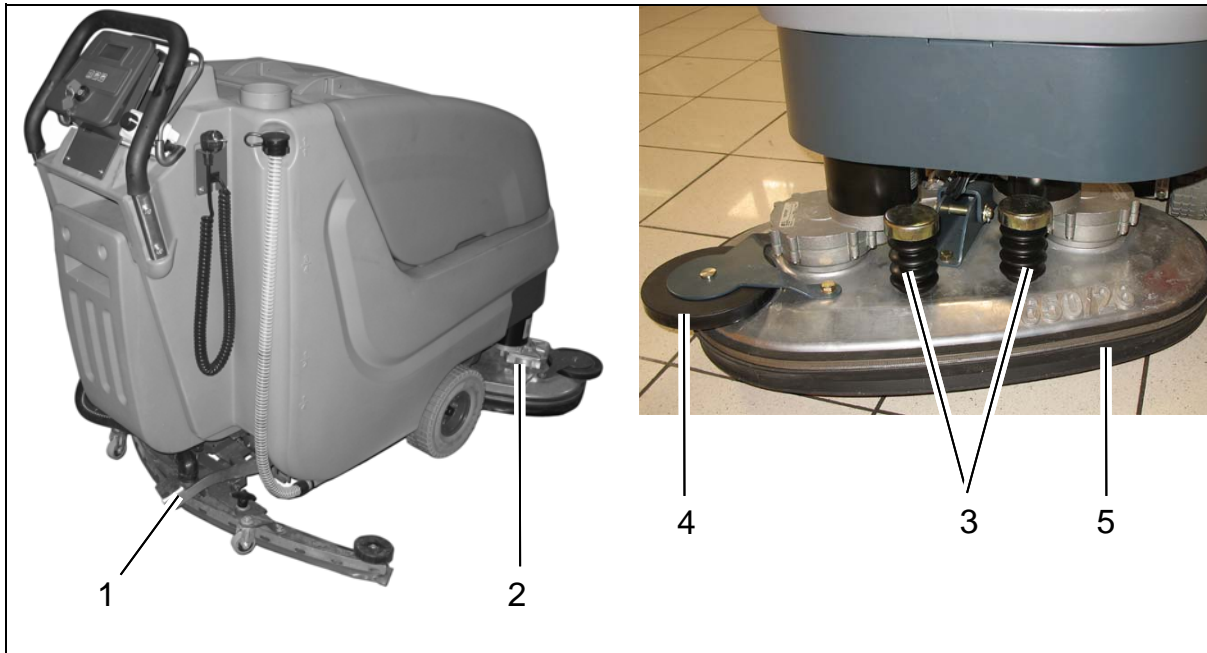

Fig.9
Clean brushes of the brush deck (Fig. 9/ 2) at daily intervals or as required.
1. Use pedal (Fig. 9/1) to lift up brush deck.
2. Press brush ejectors (Fig. 9/3) down to remove brushes for cleaning.
2. Press brush ejectors (Fig. 9/3) down to remove old brushes.
Check roller bumper (Fig. 9/4) at weekly intervals or replace as required.
Check sealing strip (Fig. 9/5) at weekly intervals or as required. Before doing so, open toggle-type fastener and remove sealing strip. Proceed to mounting in reverse order.